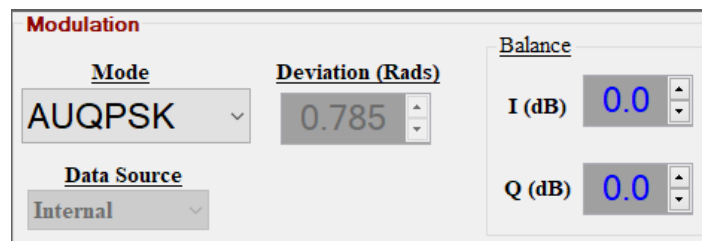

Figure 4-10
- A. **UQPSK and AUQPSK** - Additional settings are available to set up a desired I/Q power level ratio. Figure 4-10 shows the **Balance** feature that appears on the GUI when either **UQPSK** or **AUQPSK** modulation is selected. Clicking on the up-down arrow ($\blacktriangle \blacktriangledown$) icons located on the right of the **I (dB)** and **Q (dB)** windows allows the user to select the desired power level ratio (balance) between the I and Q signals.